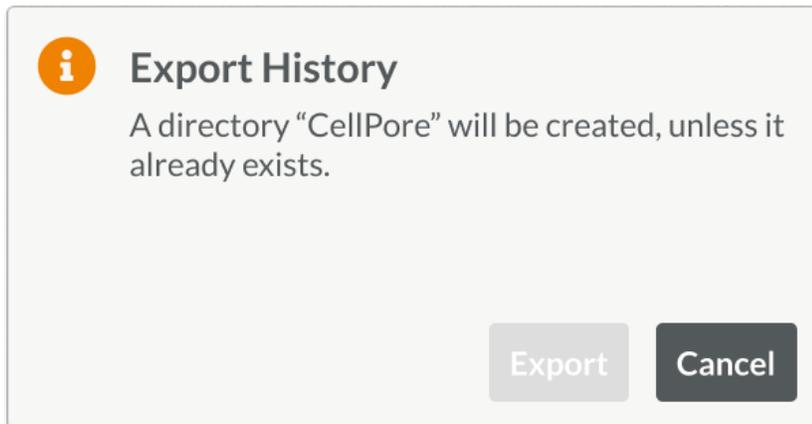

Figure 42. Dialog Box to Confirm Exporting Results to a USB Device
- Tap . This icon shows the number of items to be exported in parentheses. A prompt will appear to insert a USB device if there is not one already inserted (Figure 42).